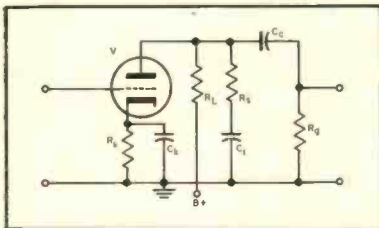

Fig. 4. Basic variable-load-impedance bass-boost amplifier circuit. Triode shown for simplicity.
A simple, commonly-used type of bass boost circuit is shown in Fig. 4.  $R_k$ ,  $R_L$ , and  $R_\theta$  may be selected from resistance-coupled amplifier data to provide the maximum gain desired at the lowest frequency of interest. The requirements on  $C_e$  and  $C_k$  are the same as discussed for the basic amplifier in the degenerative-bass-boost circuit. The high-frequency gain is given by the product of the mutual conductance of the tube and a resistance equal to the parallel combination of the plate resistance of the tube,  $R_L$ ,  $R_s$ , and  $R_\theta$ . The required value for  $C_t$  may be computed from Eq. (6) by substituting  $R_s$  for  $R_i + R_s$ . The maximum gain should be at least 6 db above, or two times greater than, that required for the greatest bass boost desired, if a 6 db per octave slope is to be followed to the lowest frequency of interest. A 6SJ7 operated to obtain a maximum gain of 200—46 db—will provide for a high-frequency gain of about three and